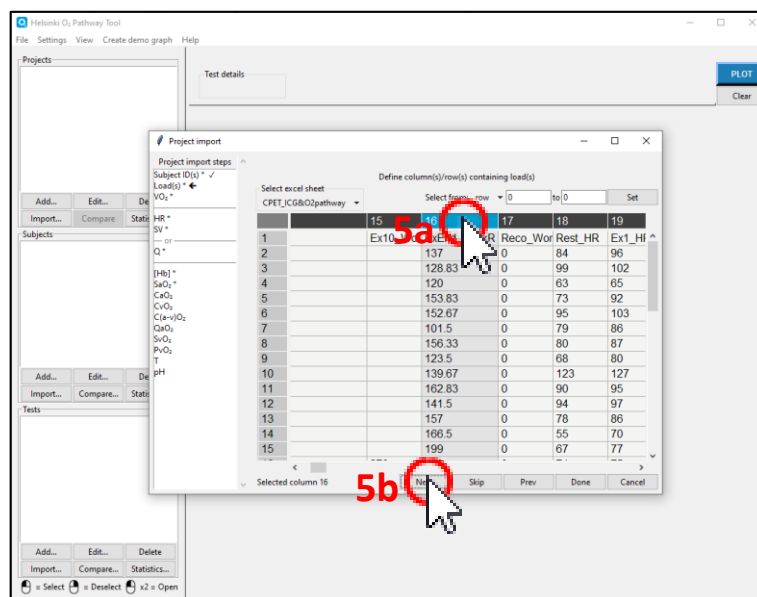

Figure 39
5. Define the loads (figure 39).